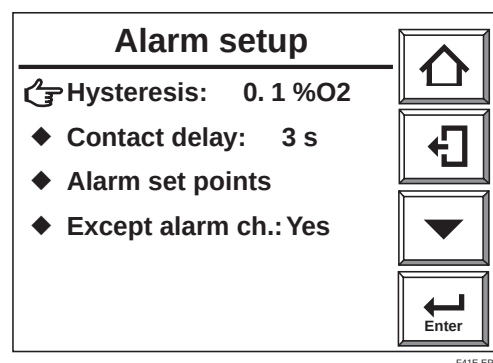

Fig. 8.12 Alarm setting
- 2) Select [Commissioning] --> [Alarm setup] and the Alarm setup display (Fig.8.12) appears.